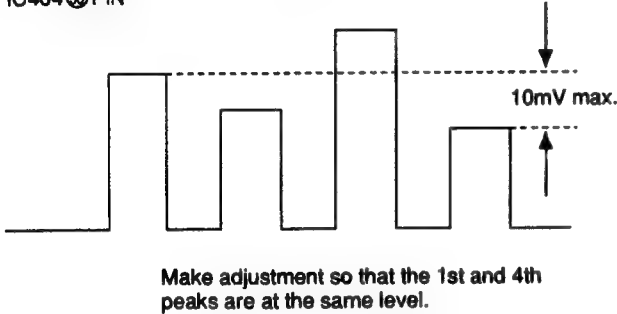

Fig. 5-18
- 2) Connect the probe of an oscilloscope to IC404 ③ PIN or TP402.
- 4) Adjust **CHROMA NTSC 358 NOR** so that the peaks of waveforms will be flush with each other as shown in Fig. 5-18.
- 2) Adjust **CHROMA NTSC 358 ACC OFF** in the same way as 10-4. shown above. (Fig.5-18)